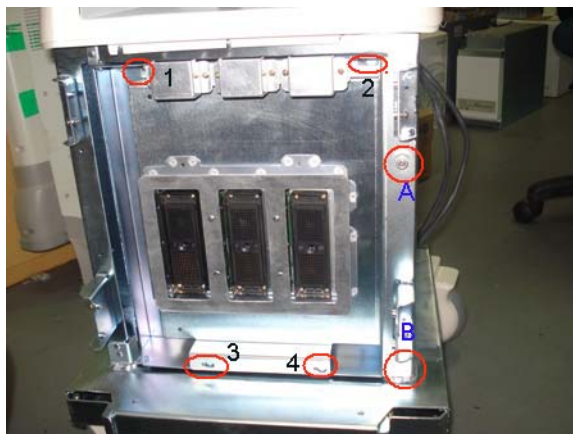

Figure 8-56 Connector Board assembly
- 4) Loosen Four Screws to remove the connector board and remove the conn board from the system. Refer. Figure 8-56 on page 8-56 .To open the Hinge Door Loosen knob screw (A) & (B)
Refer Figure 8-56 on page 8-56